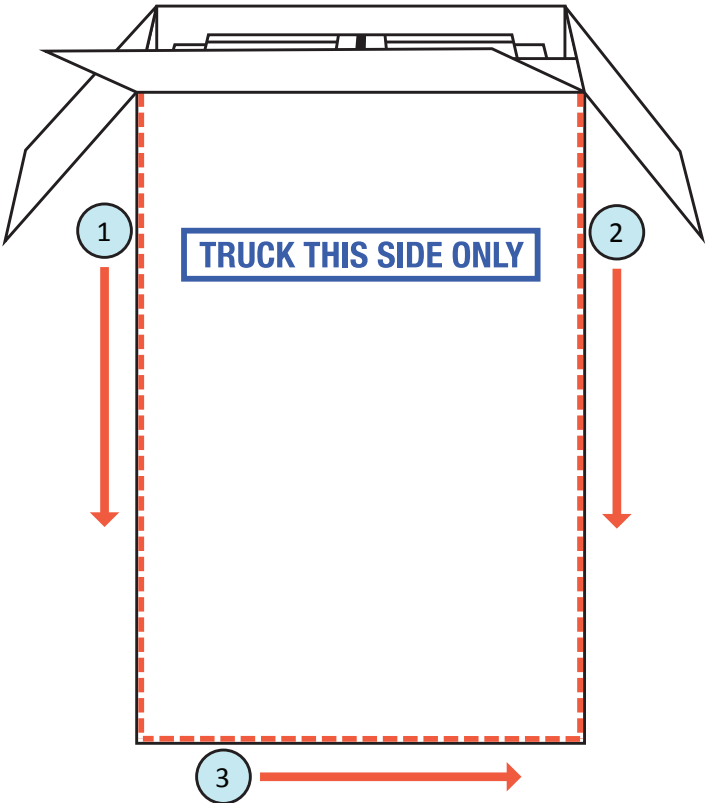

Figure A3b. Removing the “TRUCK THIS SIDE ONLY” side of the carton.
**2)** Using a utility knife, remove the “TRUCK THIS SIDE ONLY” side of the shipping carton (see figure A3b). Carefully cut down the left and right sides of the box. Let the flap fall to the floor, then cut across the bottom edge (taking care not to damage the floor).